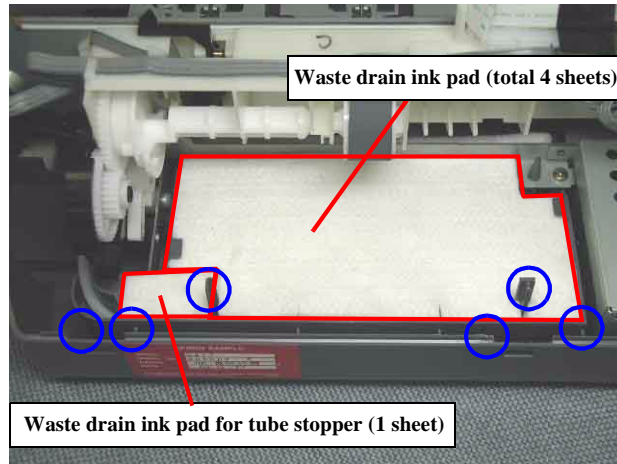

Figure 4-43. Waste drain ink pad setting position
- When disassembling/assembling the Waste drain ink pad, be careful not to hurt your hand with the protrusion of the Lower housing. (Refer to Figure 4-43: Blue circle)